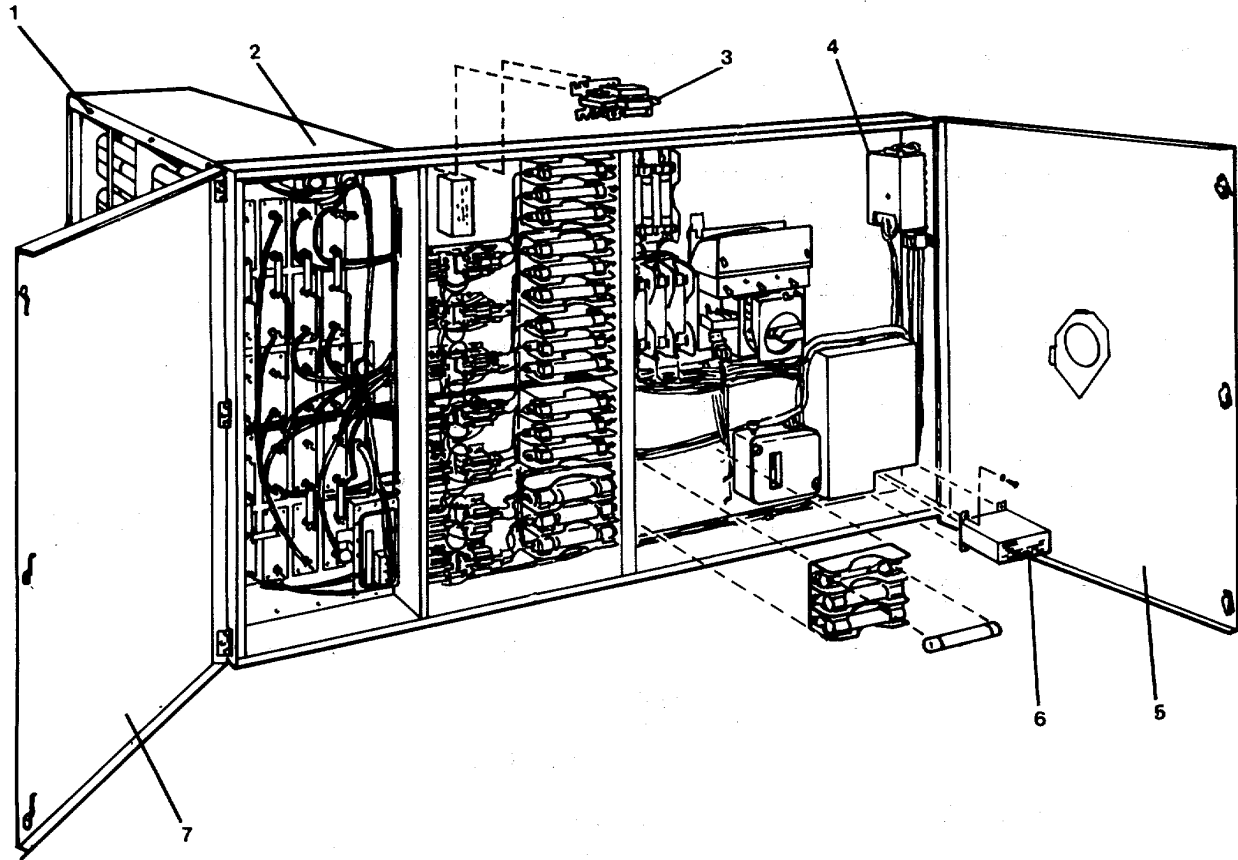
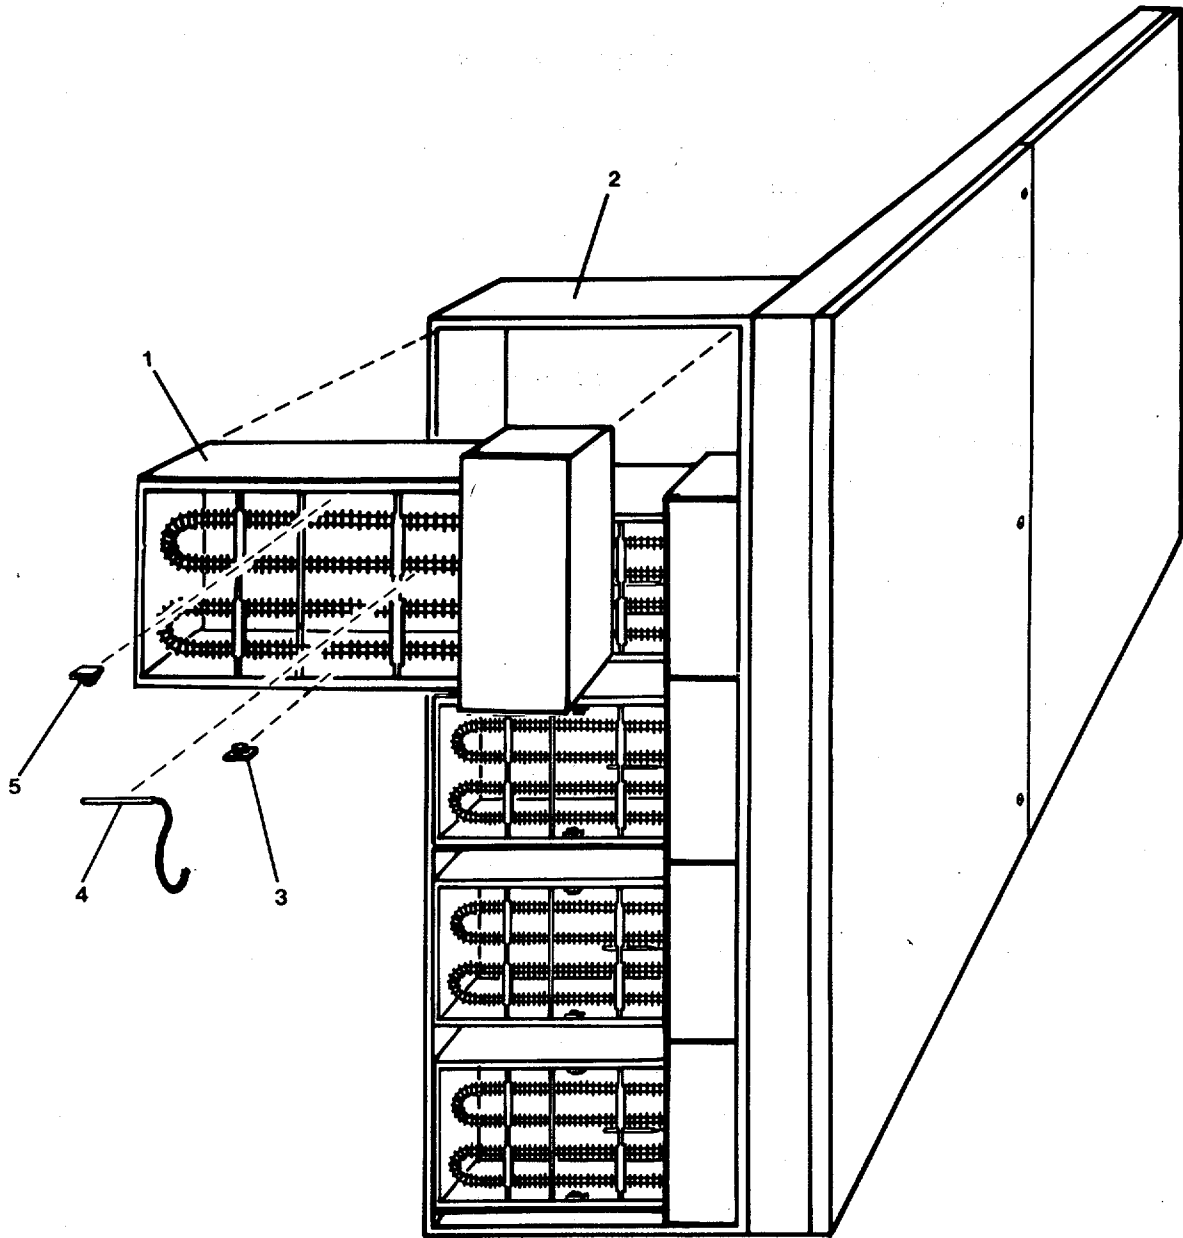

Figure 3-1. Duct Heater (DH #1).
FIGURE 3-2. *Thermostatic Switches (DH #1).*
- a. Open terminal box doors (5, 7, FIGURE 3-1).
- b. Tag and disconnect electrical power supply wiring to heater (2).
- c. Tag and disconnect thermostat wiring to the heater (2).
- e. Remove the mounting screws (1) holding heater to ducting.
- f. Slide the heater (2) from the ducting.
- c. Replace control transformer (6).
- (1) Tag and disconnect electrical wiring from transformer.
- (2) Remove transformer from terminal box.
- (3) Install new control transformer (6).
- (4) Connect electrical wiring to transformer terminals.
- d. Replace thermostatic switches (3, 4, 5, FIGURE 3-2):
- (1) Remove duct heater (removal step in this procedure).
- (2) Replace appropriate thermostatic switch in the heater (2) element box (1):
- (b) Remove appropriate switch (3, 4, or 5) from element box (1).
- e. Close terminal box doors (5, 7, FIGURE 3-1).
- a. Install heater (2, FIGURE 3-1) in ducting with mounting screws (1).
- b. Run power supply and thermostat wiring into terminal box on the heater (2).
- (1) Turn electrical power ON.
- (2) Start and run heater to check for proper operation.
- (3) Remove "Out of Service" tag from circuit.